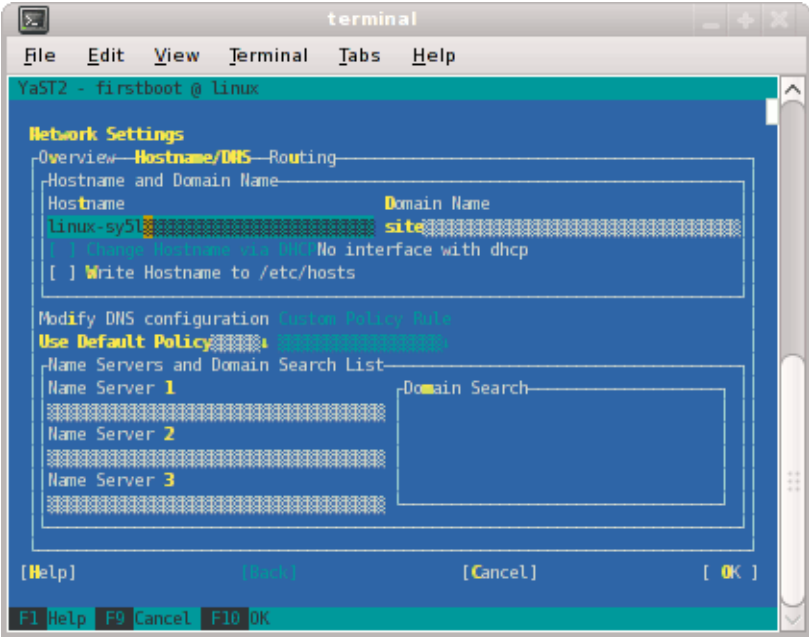

Figure 2-14 Network Settings Screen
7. At this point, you are back at the **Network Settings** screen as shown in Figure 2-14 on page 49. At this time, select **Hostname/DNS**. In this screen, you should enter your house/public network hostname and fully qualified domain names. In addition, any name servers for your house/public network should be supplied. Please select (ensure an x is in the box) for **Write hostname to /etc/hosts**. Do not select **OK** yet.